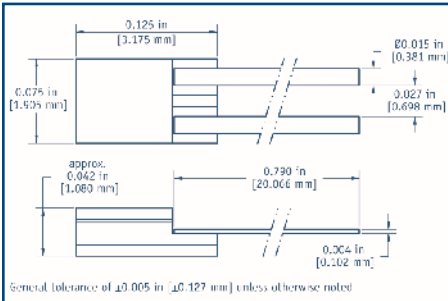

Figure 2 – SD Package
1. Although the SD sensor package (Figure 2) is a 2-lead device, measurements should preferably be made using a 4-wire configuration to avoid uncertainties associated with lead resistance.